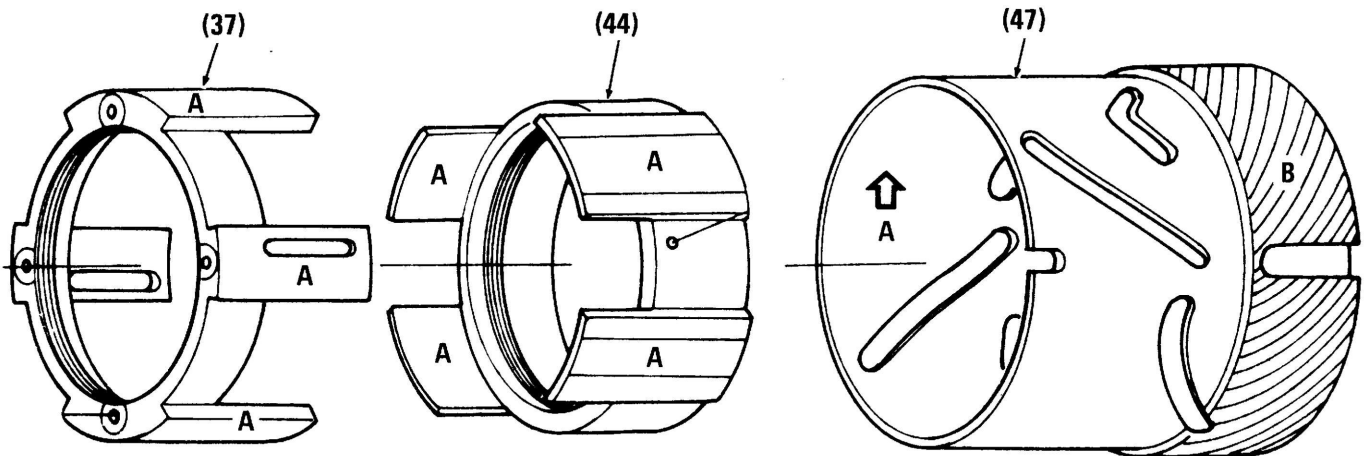
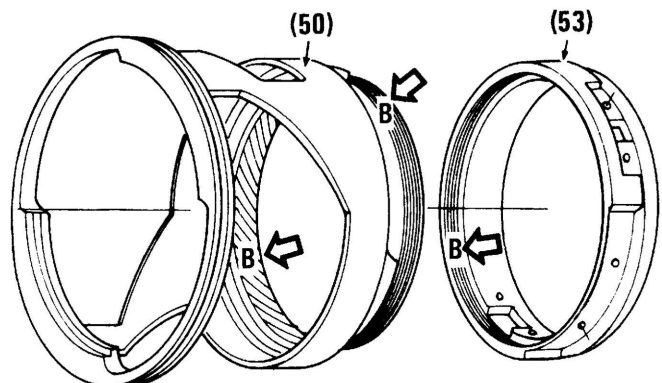

FIG. 4-17
FIG. 4-18
Lubrication is described below, however, the sequence of lubrication is given in the reassembly procedure and should be accomplished when specified. Refer to Fig. 4-17.
- a) Apply a thin film of lubricant "A" to the inside of inner helicoid (47).
- b) Apply a thin film of lubricant "A" to the bearing surfaces of slide housings (37) and (44).
- e) Apply a thin film of lubricant "B" to threads of inner helicoid (47) (Fig. 4-17) and middle helicoid (50). Fig. 4-18.
- f) Apply a thin film of lubricant "B" to the threads of outer helicoid (53) and to the mating threads on middle helicoid. Assemble, rotate back and forth to spread lubricant evenly. Separate the helicoids and remove excess lubricant. Fig. 4-18.